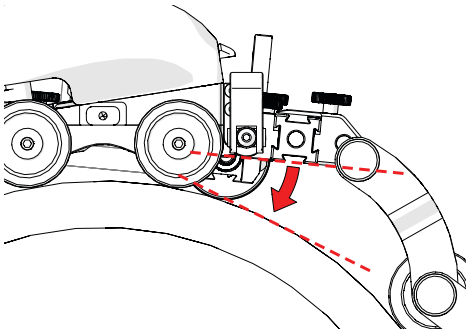
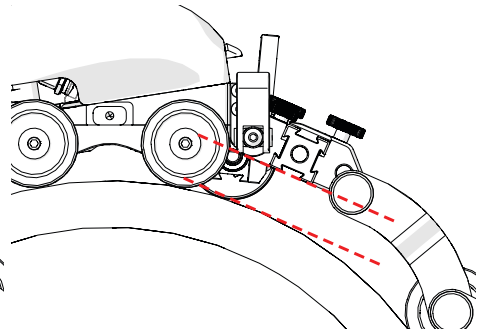

Fig. 19 - Lower pivot nose
Fig. 20 - Parallel with scan surface tangent
6. Adjust the pivot nose (Fig. 19) angle to align the frame bar parallel with the tangent of the scan surface (Fig. 20).